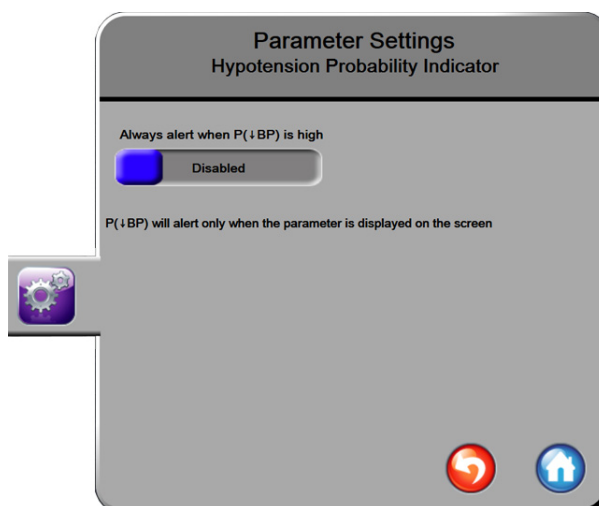

Figure 12-4 Parameter settings - P(\downarrow BP) information bar toggle button
- 5 Touch the **Always alert when P(\downarrow BP) is high** toggle button to switch to **Disabled**. See figure 12-4